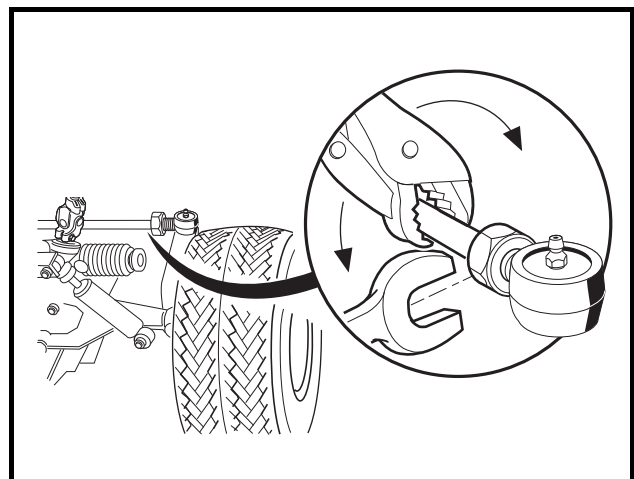

Figure 7-19 Adjust Toe-In
6. If adjustment is necessary, loosen the jam nut on each tie rod ball joint and rotate the tie rod to increase or decrease toe-in (**Figure 7-19, Page 7-17**). **See following CAUTION.**